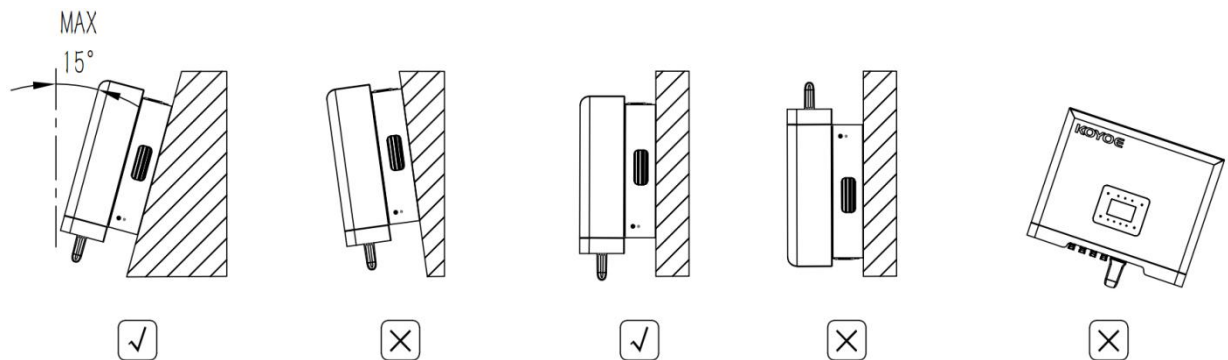

Figure 4-1
- Refer to Figure 4-1 to confirm the correct installation angle
The machine can also be fixed on other surfaces, such as stable and flat metal support. The installation process is basically the same as that of the wall. It is to punch holes to fix the wall hanging, and then fix the inverter on the wall hanging. However, the installation surface must be solid, flame-retardant and not deformed at high temperature. Refer to Figure 4-1 for installation angle.